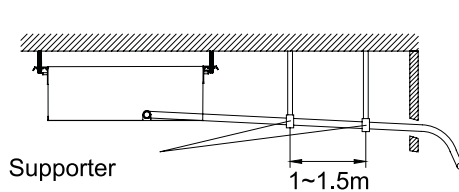

Figure 3-1-9
- (3). When the hose is long, install supporters.(Figure 3-1-9)
- (4). Always use the drain hose which has been insulated properly.